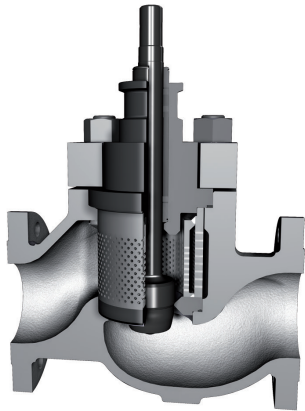

Figure 9: Mark One with MegaStream Trim Body Assembly
8.4.1 MegaStream replaces the standard Mark One retainer with a drilled hole retainer, see Figure 9. The plug and bonnet are typically identical to the standard Mark One design. Assembly and disassembly of the valve follows the standard procedures.